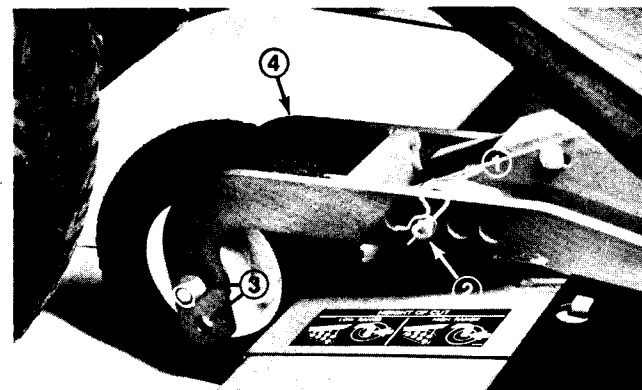

Figure 2
3. On the front cutting unit, remove the hairpin cotter and clevis pins from the rear castor pivot arms (Fig. 2). Align the pivot arm holes with selected height-of-cut bracket holes in the cutting unit frames, insert clevis pins and install the hairpin cottes (Fig. 2).